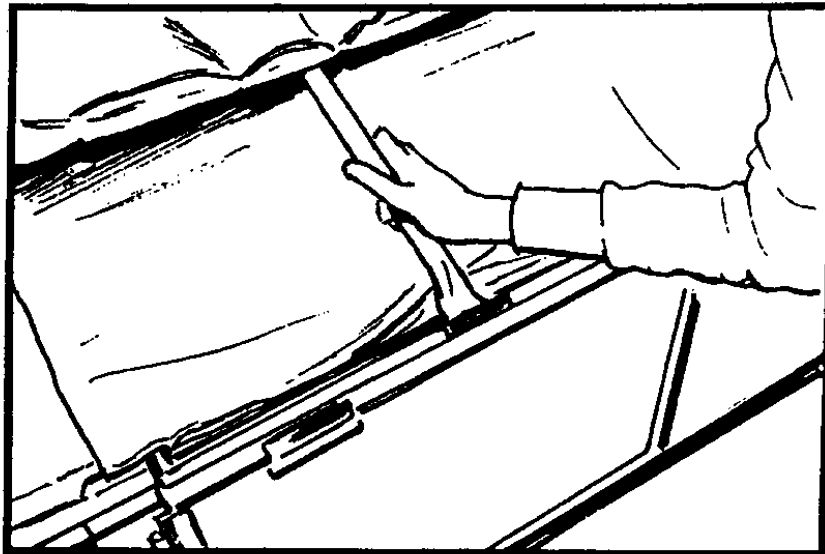

Figure 6
9. Remove the tarp support rods by pushing towards the front of the trailer to release from retaining bracket. (See Figure 6.)